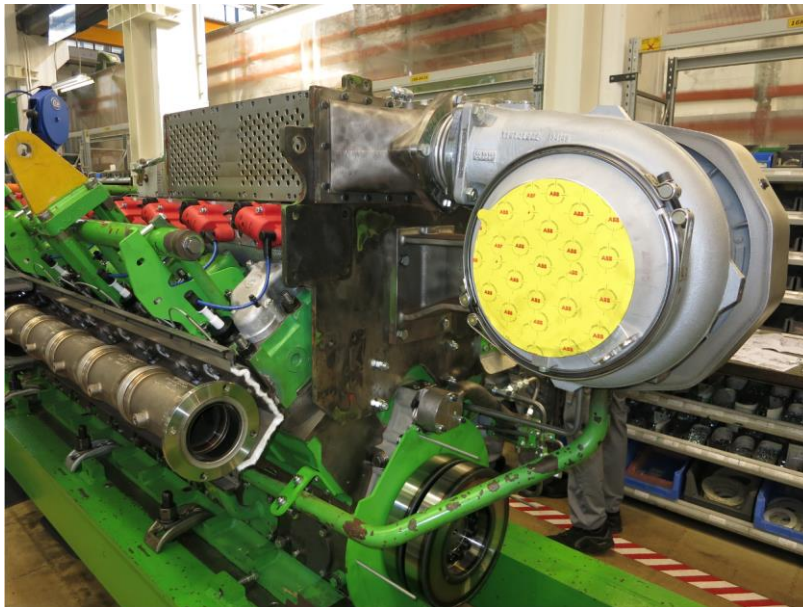

Figure 3: Engine after removing the previous connecting pipe
- ✓ See Figure 3 for removing the previous connecting pipe